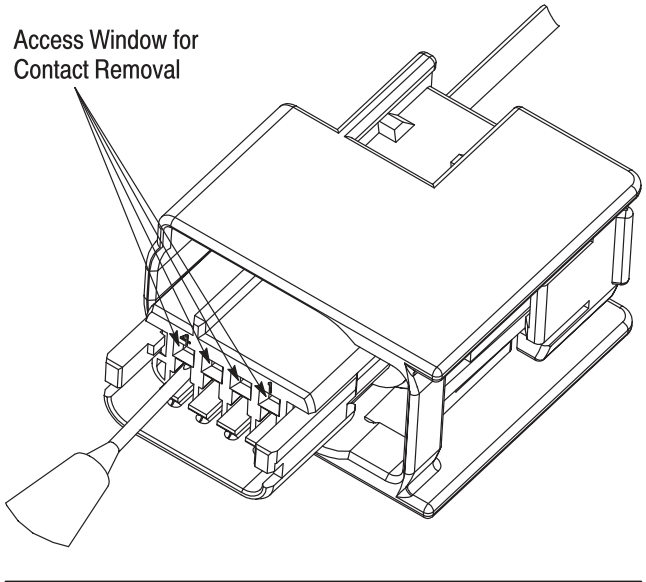

Figure 10
3. Insert an 0.8 mm – 1.0 mm flat-bladed screwdriver into the selected exposed contact cavity, as shown in Figure 10.